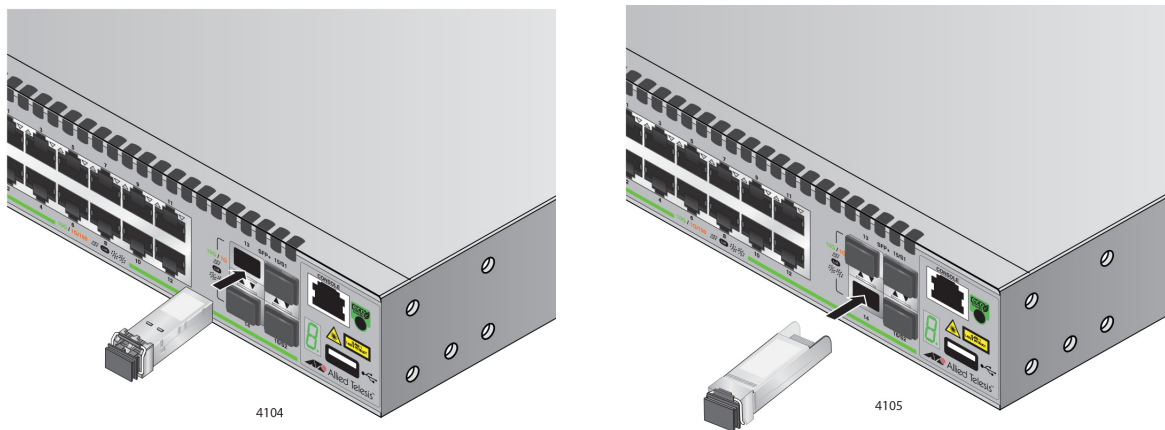

Figure 22. Installing an SFP/SFP+ Transceiver
4. Slide the transceiver into the slot until it clicks into place. See Figure 22.